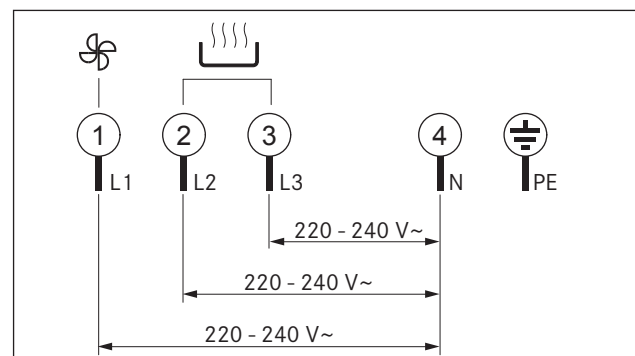

Fig. 6.36 Connection diagram 3-phase connection
- ▶ Connect the power supply cable to the power supply [2] of the cooktop with cooktopFig. 6.36r in accordance with the relevant connection diagram (see fig. 6.36 Connection diagram).